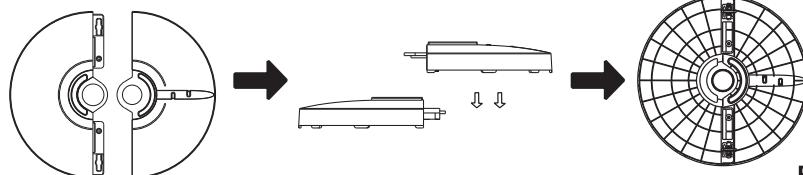

Fig.1
1. Remove the fan body and spare parts from the box. Put the front base onto the rear base and join them together. (see Fig. 1)